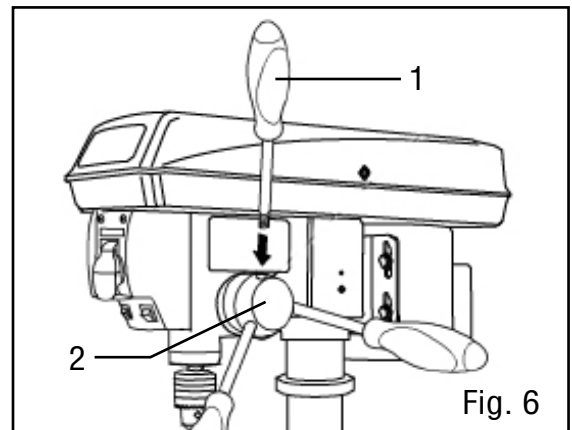

Fig. 6
FEED HANDLES (FIG. 6)
1. Insert the three feed handles (Fig. 6 - 1) into the threaded openings on the feed hub (Fig. 6 - 2).